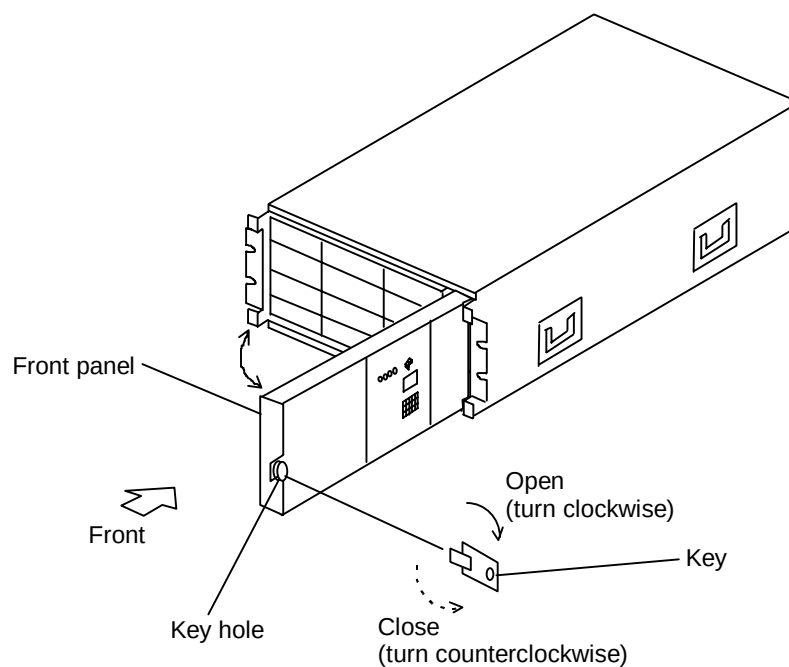

Figure 3.3.1 Opening/Closing the Front Panel
(1) Opening the front panel. (See Figure 3.3.1.)
- ① Remove the front cover.
- ② Insert the key, turn it to the arrow direction (→) and hold the left of the front panel to open to the right.
(2) Closing the front panel. (See Figure 3.3.1.)
- ① Close the front panel.
- ② Turn the key to the arrow direction (←) and secure the front panel.
- ③ Attach the front cover.